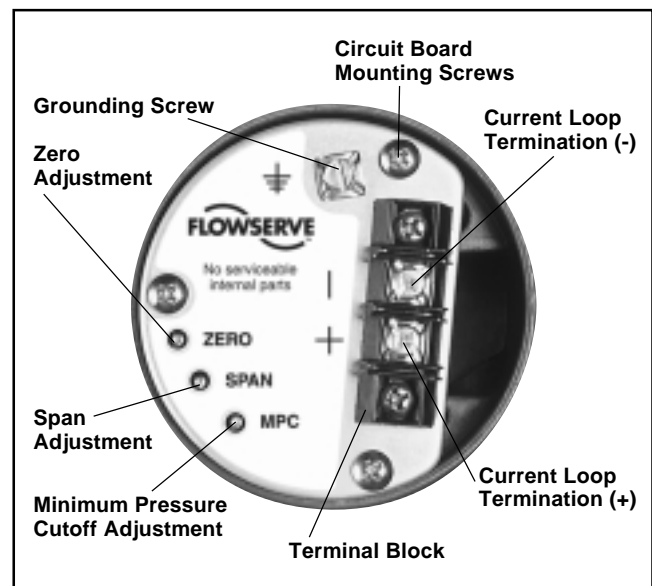

Figure 10: NT 3000 Module Circuit Board
2. Remove I/P module housing cover. (See Figure 10.)
The XL positioner with I/P Transducer has a 'Minimum Pressure Cutoff' (MPC) feature, which allows the user to set the positioner so when the input signal falls below a user-adjustable current the pressure output falls rapidly to approximately 1.7 psi, causing the valve to move to the failure position. This feature is generally used when the service requires a tight shut off or to prevent throttling near the valve seat. To adjust this feature, refer to Figure 10 and perform the following steps: